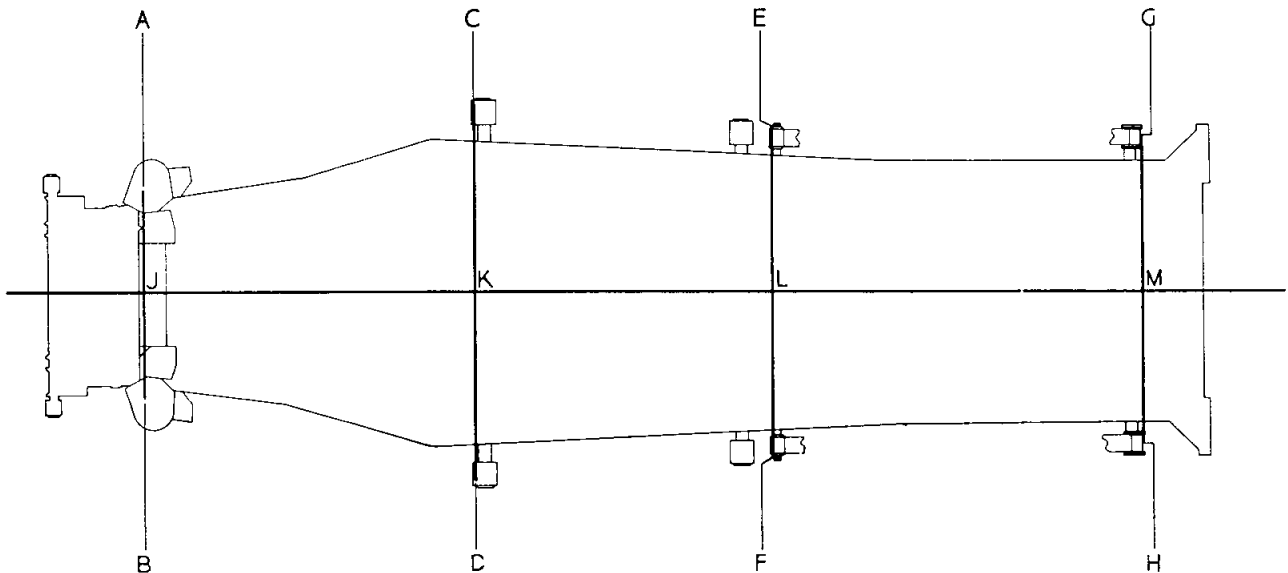

Fig. 5 Utilising the eight generated points for the assessment of "bowing."
7. CHECKING THE SIDE MEMBERS FOR BOWING (Fig. 5)